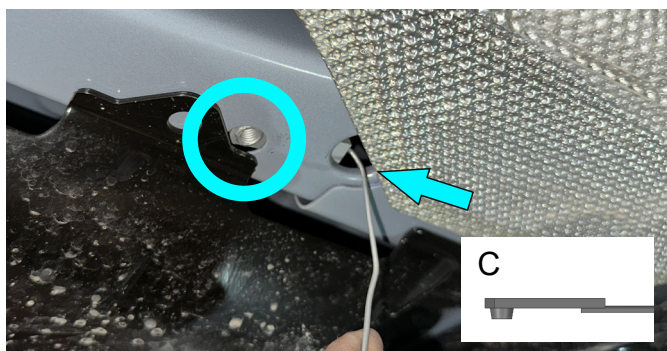

Fig. 5
5. Install M8 insert nuts with wire (item C) on both sides of the vehicle as shown in Fig. 5 and Fig. 6.